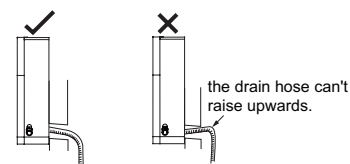

Fig.25
- 1.The through-wall height of drain hose shouldn't be higher than the outlet pipe hole of indoor unit.(As show in Fig.25)